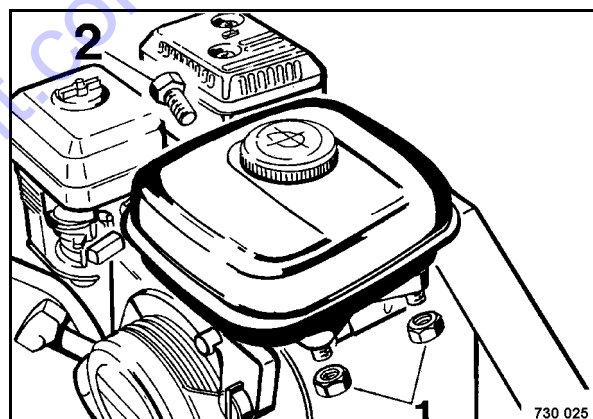

Fig. 65
- Unscrew the hexagon nut (1) (Fig. 65) and the hexagon screw (2) and take off the fuel tank.